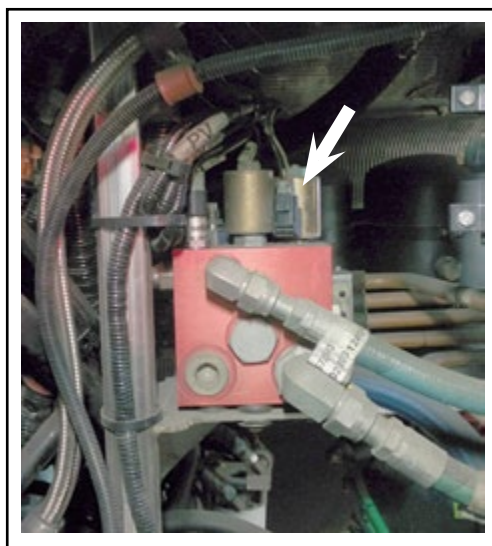

Figure 2 - Location of the +EN-X61AN Connector
- 1.5. Locate the +EN-X61AN electrical connector on the hydraulic fan control manifold. See Figure 2.